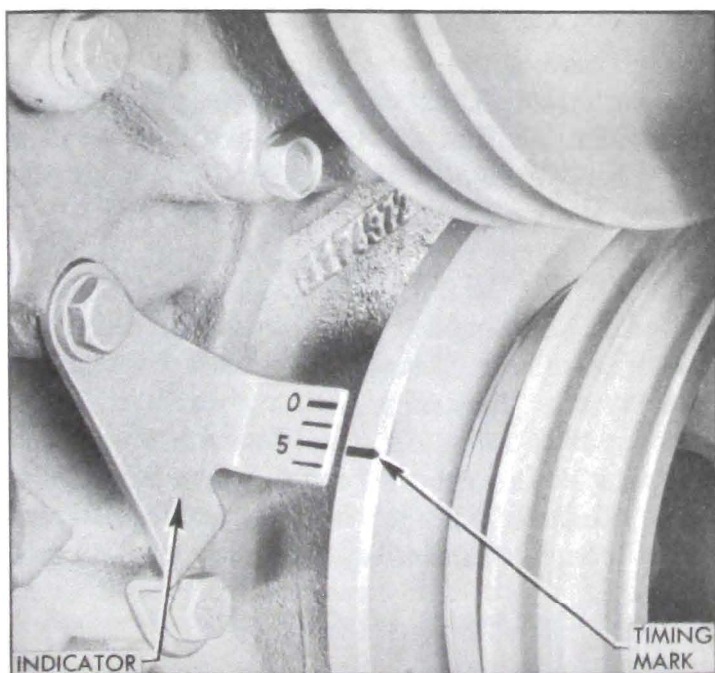

Figure 10-39—Ignition Timing Mark and Indicator
The timing mark is a groove filled with yellow paint, which is on the rear edge of the harmonic balancer. A timing indicator, mounted on the timing chain cover, has four grooves filled with yellow paint. These grooves indicate U.D.C. (marked "0"), 2½ degrees, 5 degrees, and 7½ degrees before U.D.C. See figure 10-39.
1. With right rocker arm cover removed, rotate crankshaft in a forward direction using a suitable wrench on the harmonic balancer to crankshaft bolt. Continue rotation until both valves for No. 1 cylinder are completely closed and the timing mark on balancer is aligned with the 5 degree mark on timing indicator. See figure 10-39. No. 1 cylinder is now in position to fire.
4. Direct beam of timing light on the timing indicator and edge of harmonic balancer. Turn distributor housing slowly until yellow mark on balancer lines up with the 5 degree mark on indicator, then tighten clamp bolt securely. See figure 10-39.